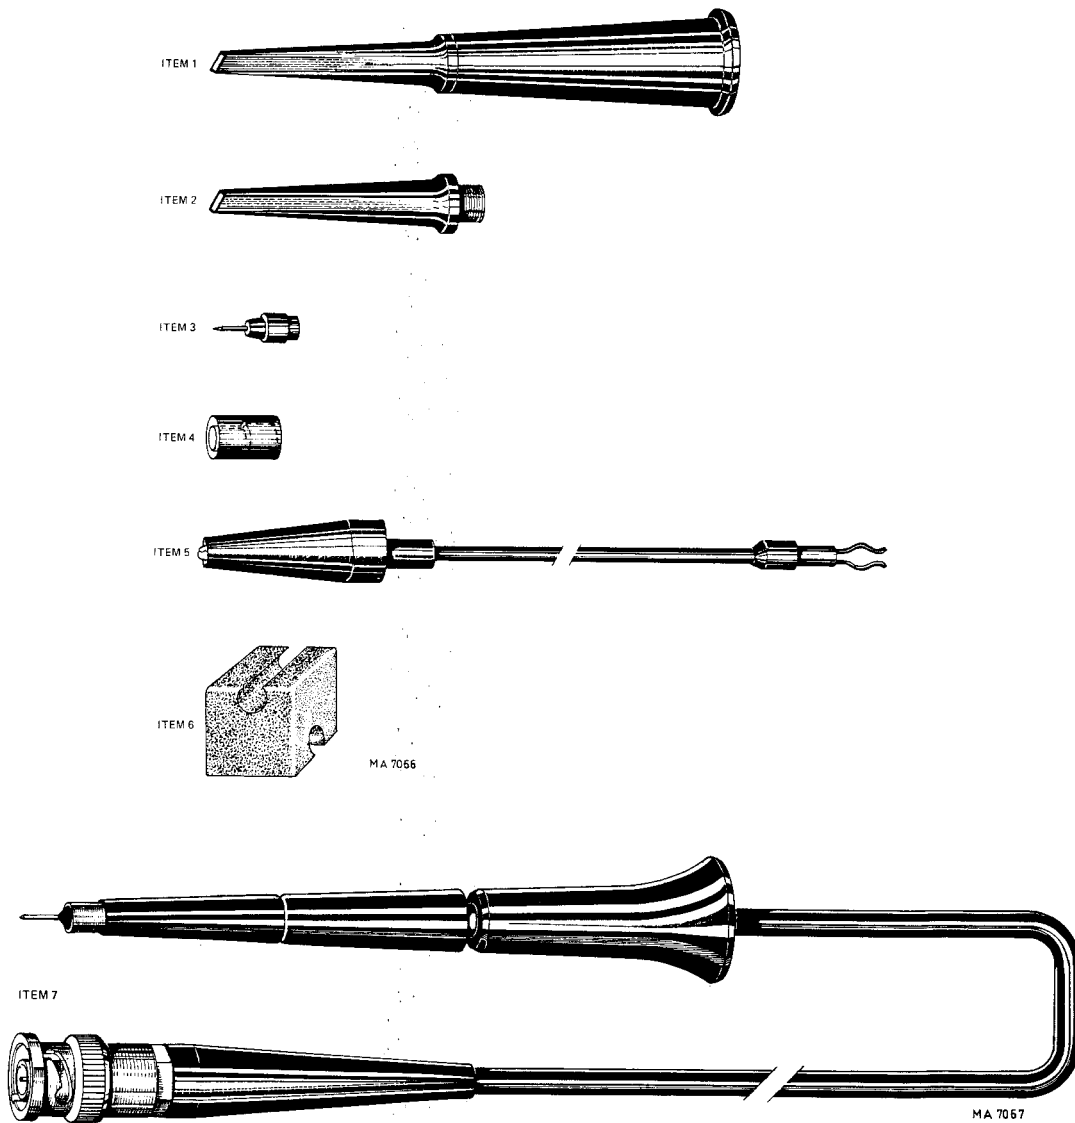

Fig. 22. Probe set PM 9335
**3.7.7. 1:1 Probe set PM 9335 (Fig. 22)**
| 1 test hook               | Fig. 22, item 1 |
| 2 spare test hook sleeves | Fig. 22, item 2 |
| 2 spare probe tips        | Fig. 22, item 3 |
| 1 protective cap          | Fig. 22, item 4 |
| 1 earthing lead           | Fig. 22, item 5 |
| 1 probe holder            | Fig. 22, item 6 |
| 1 probe assembly          | Fig. 22, item 7 |